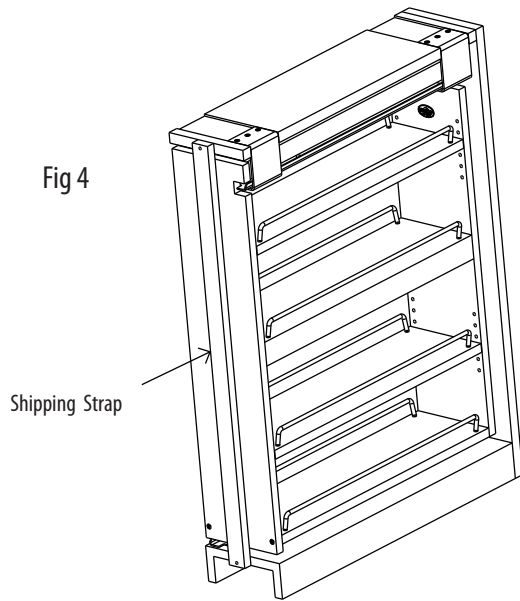

Fig 4
Step 6. Remove front shipping strap. (See Fig 4)